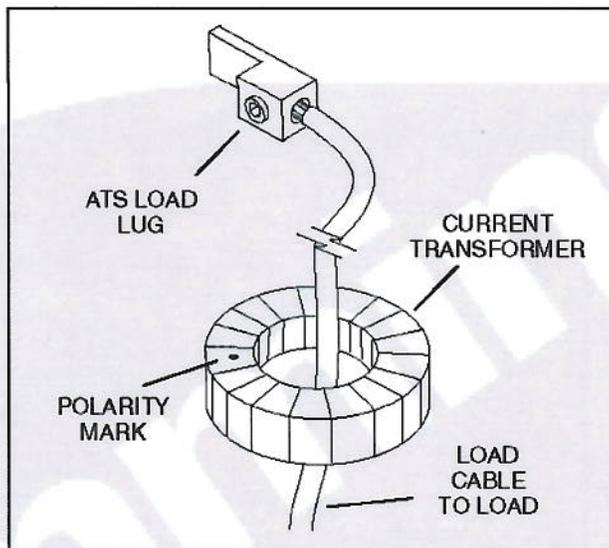

FIGURE 8. CURRENT TRANSFORMER WIRING
On transfer switches with a bar graph display, in order to measure the current, the load cables must each pass through a current transformer (Figure 8). Transfer switches are shipped with current transformer (CT) wires (white wire = X1, black wire = X2) connected to the terminal block (TB4) with the polarity mark facing the transfer switch. When wiring the power cables to the transfer switch, be sure the cables pass thru the CTs, and **make sure all CTs are facing the same direction with the polarity marks facing the transfer switch.**